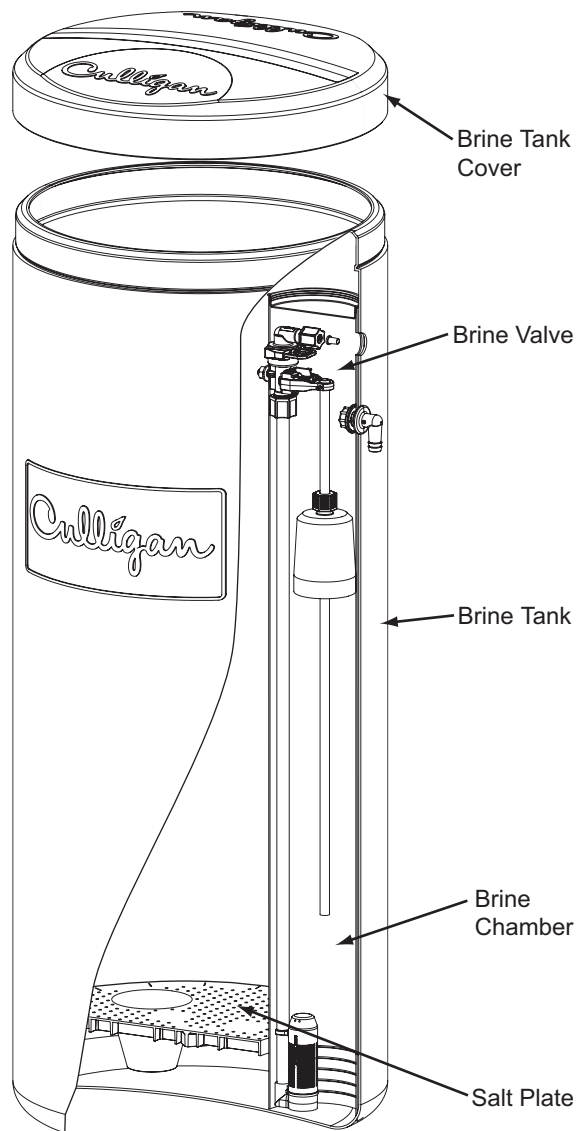

Figure 1. Brine Tank
**Brine Tank (Figure 1)**- Refer to section “Fill The Salt Storage Container” on page 22 for proper Brine Tank usage.